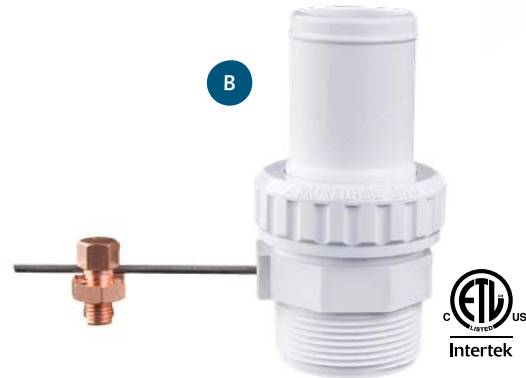

Figure 1
- Install Pool Bonding to a Standard Above Ground Pool Pump through the Strainer Drain Plug (Fig 1)
- Meets Requirements of NEC 680.26 (C)